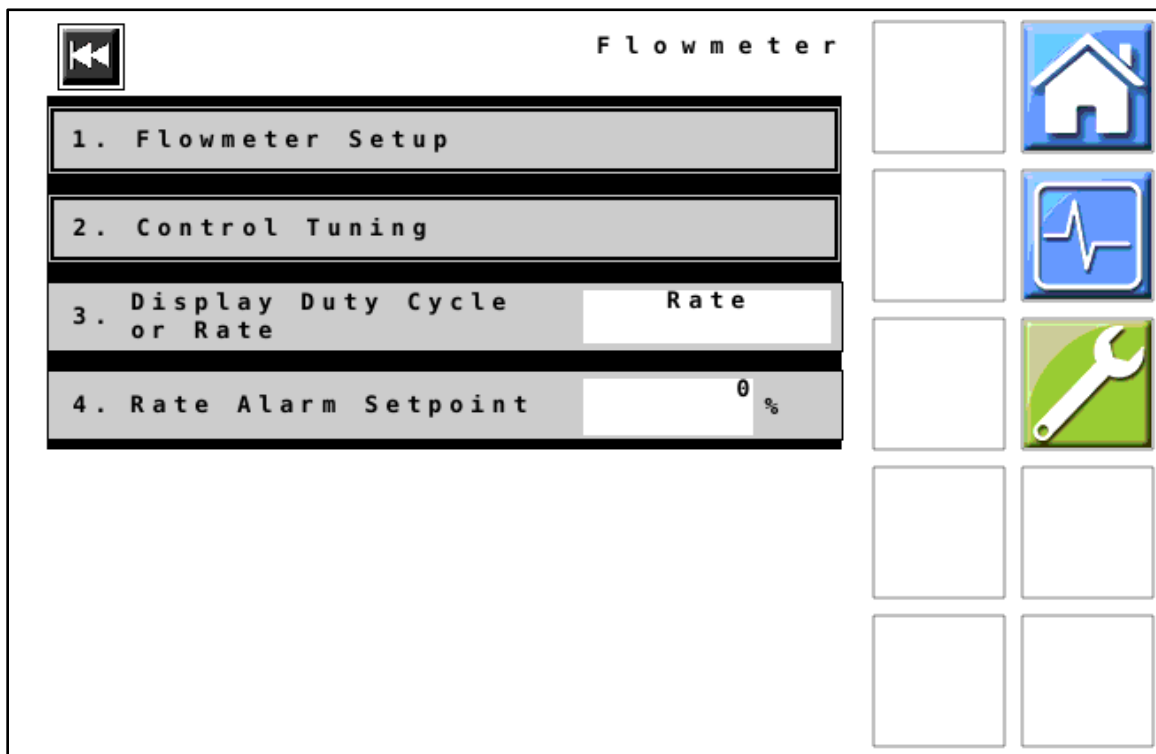

Figure 16 — Flowmeter
26. *Figure 16:* Verify that all values displayed on your unit match those shown here. Change values if necessary.